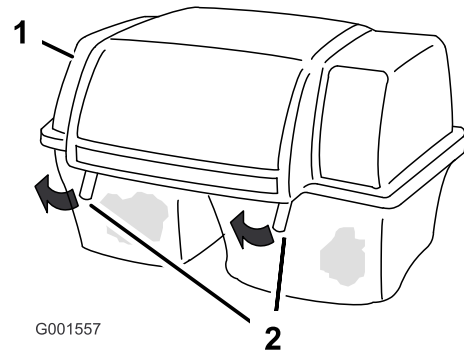

Figure 18
3. Raise the bagger top and remove the grass bags from the bag frame (Figure 18).